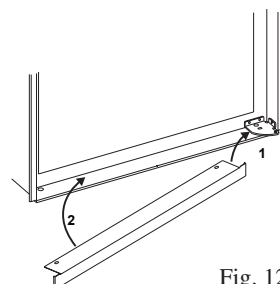

Fig. 12
- a) Install the lower front strip by sliding it under the bottom hinge plate, as shown in Fig. 12.